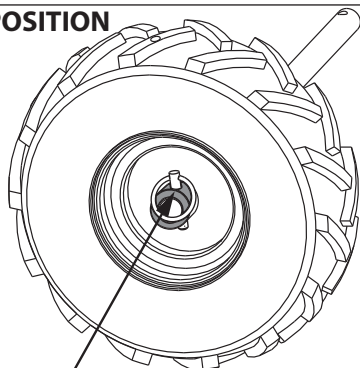

FIGURE 11
1. Remove lock pin. Slide wheel slightly outward away from machine. Align hole in axle with hole in wheel hub. **SEE FIGURE 11**